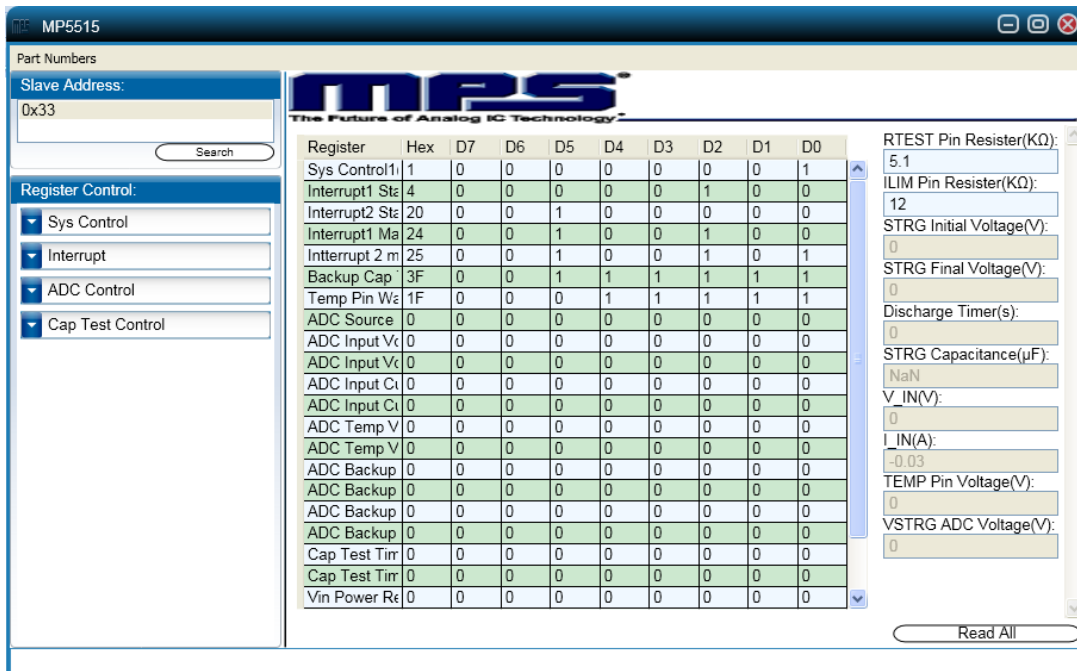

Figure 10: Values from I²C Shown in Table
3. Select the MP5515 under Part Numbers. The Register Control menu will appear on the left side. The I²C register values will be read and displayed on the right side after clicking the **Read All** button (see Figure 10).